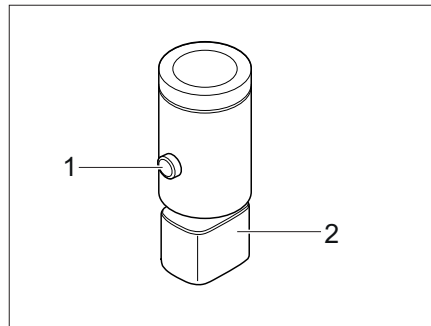

Fig. 55 LED spot light (example)
- Press the on/off switch (Fig. 55,1).
- Press the on/off switch (Fig. 55,1) again.
- Grasp the holder (Fig. 55,2) and turn it by 90°.
- Insert the LED spotlight (Fig. 55,2) into the rail system at the desired position and turn 90°.